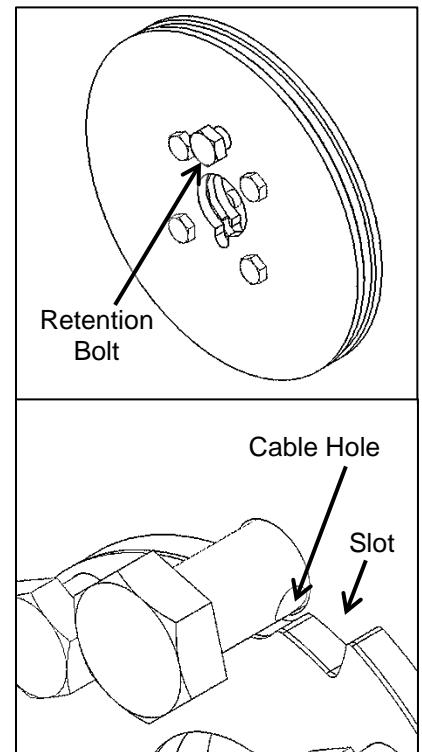

Figure 4: Cable Retention Bolt
6. Remove the cable from the drum by loosening the retention bolt (**Figure 4**)
8. Attach the cable to the drum by threading it through the hole in the retention bolt (**Figure 4**). The loose end of the cable should be short enough to fit completely inside the slot.